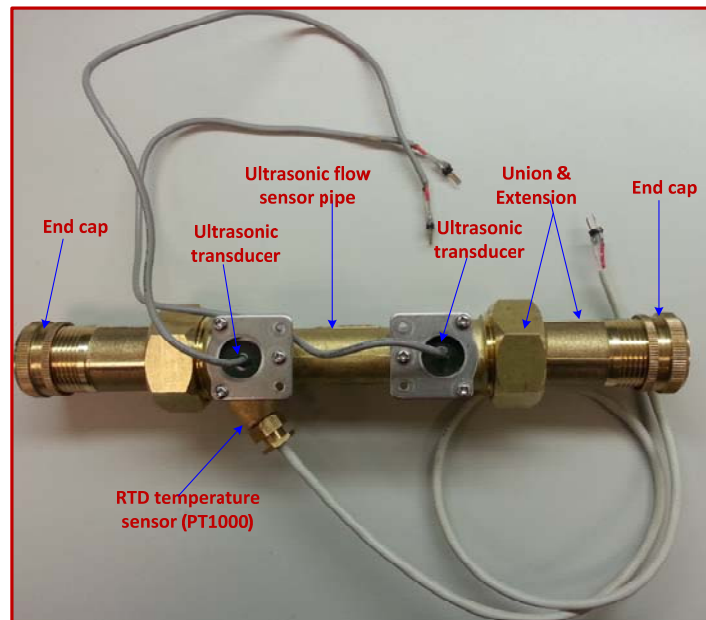

Figure 5. ultrasonic flow-meter sensor pipe
2. Obtain the ultrasonic water flow sensor shown in Figure 5 from the source in the reference section of this document. The union and the pipe extension are not necessary for zero flow test but you would need the end caps to confine water in the pipe for the test. The RTD temperature sensor is not include in the sensor and can be obtained from a different manufacturer. The RTD used in this setup is a JUMO PT1000. If you need to use a PT500 temperature sensor, you would need to change the temp sensor reference resistor (R_{REF}) on the TDC1000-TDC7200EVM to 500 Ω (the EVM board comes with a 1000 Ω resistor reference resistor).